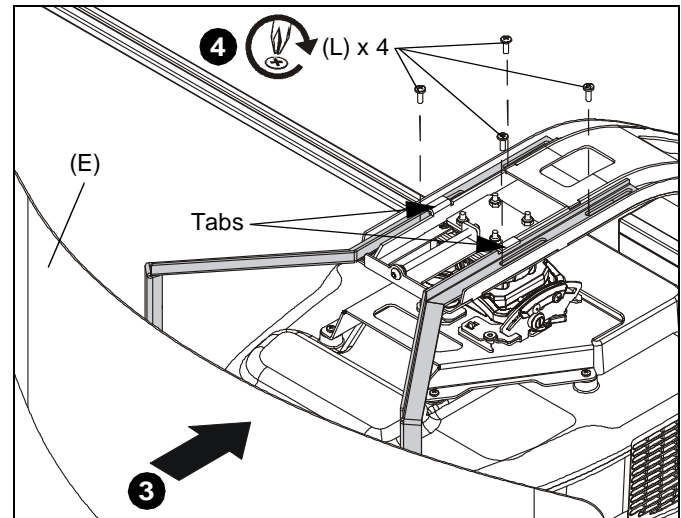

Figure 22
3. Slide the valence (E) with attached brackets into the boom projector mount (S), sliding brackets under tabs in boom and adjust distance as required. (See Figure 22)
4. Fasten through bracket slots into boom mount using four 10-24 x 1/2" Phillips pan head machine screws (L). (See Figure 22)